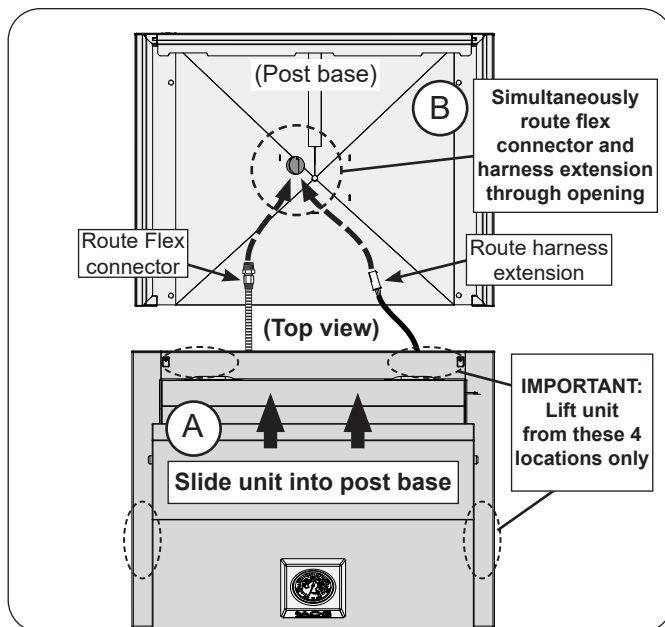

Fig. 15-1 Install grill to post base
DO NOT lift the unit from the front panel when installing. Lift only from the designated areas shown in Fig. 15-1.
1. Carefully lift and place the rear end of the appliance over the post base opening and begin to slide the unit inward (Fig. 15-1, A). **DO NOT SLIDE THE UNIT IN COMPLETELY!** While installing:
- be sure to simultaneously route the flex connector and wire harness extension (if applicable) down through the large circular opening on the upper portion of the post base. See Fig. 15-1, B.